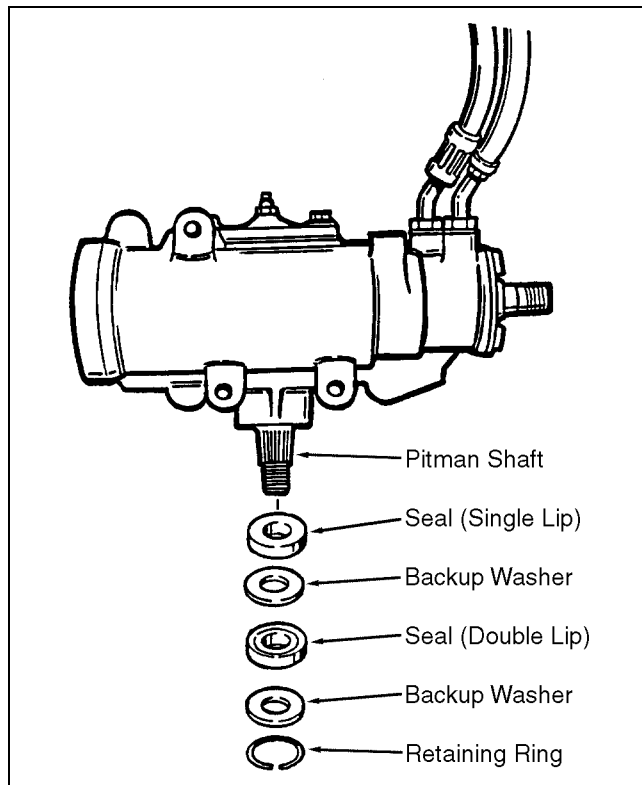

Figure 6D-2. Pitman Shaft Seals
4. Install seals and washers as shown in Figure 6D-2 and secure with retaining ring.